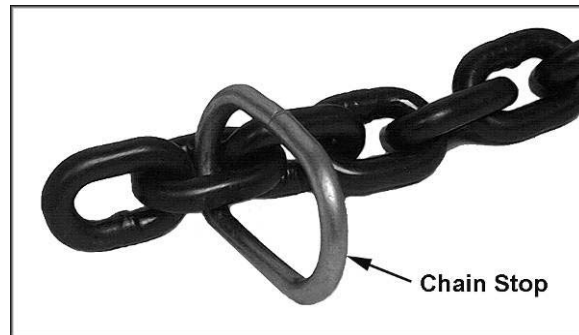

Figure 2
1. A chain stop must be attached to the second-to-last link on the slack end of the chain. See Figure 2.